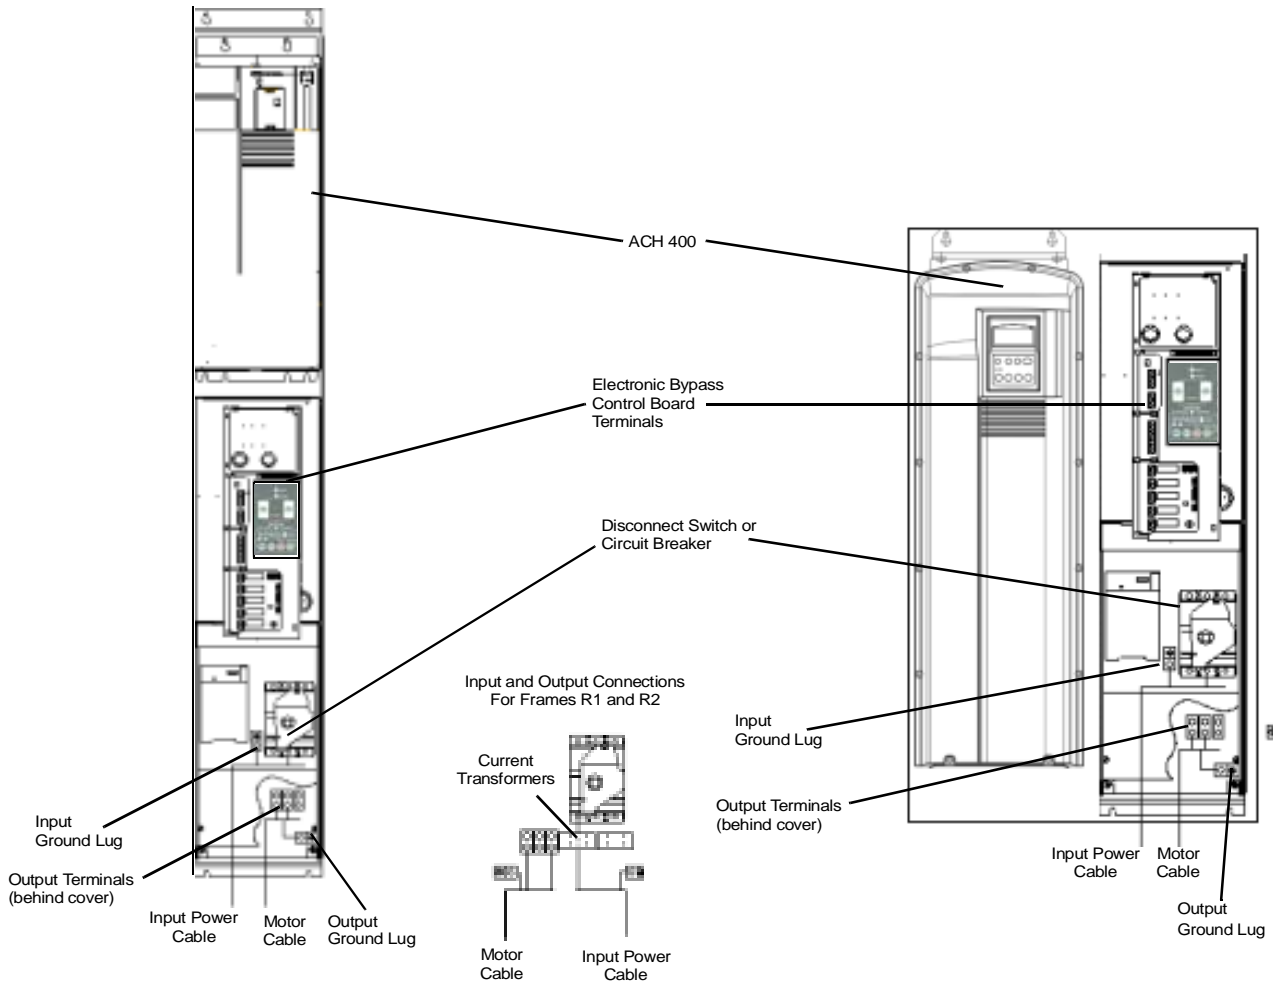

Figure 3-1 Wiring Connection Points
Figure 3-1 shows the Electronic Bypass wiring connection points for R1 - R4 frame sizes. Other frames sizes are addressed in the section *Connection Points* on page 3-16. Refer to the *ACH 400 User's Manual* for control connections to the drive.
Connect the input power to the terminals at the bottom of the disconnect switch or circuit breaker as shown in Figure 3-1. Connect the equipment grounding conductor to the ground lug near the input power connection point.
Connect the output power to the terminals at the bottom of the bypass section as shown in Figure 3-1. Connect the equipment grounding conductor to the ground lug near the motor cable terminal block connection point.
Connect the motor cables to the output terminal block as shown in Figures 3-1 and 3-3. The motor grounding conductor can be connected to the ground lug near the terminal block.
- Connection Points** Control wiring is connected to terminal block X1 on the ACH 400 control board and to terminal block X2 on the Electronic Bypass control board. Figure 3-1 shows the location of X2. Refer to the *ACH 400 User's Manual* for the location of X1. X1 accepts one wire per terminal in wire sizes ranging from 22 AWG to 16 AWG and X2 accepts one wire per terminal in wire sizes ranging from 26 AWG to 14 AWG. Up to three wires per terminal can be connected with a proportional reduction in maximum wire size. The control terminals should be tightened to 13 inch - lbs. of torque.